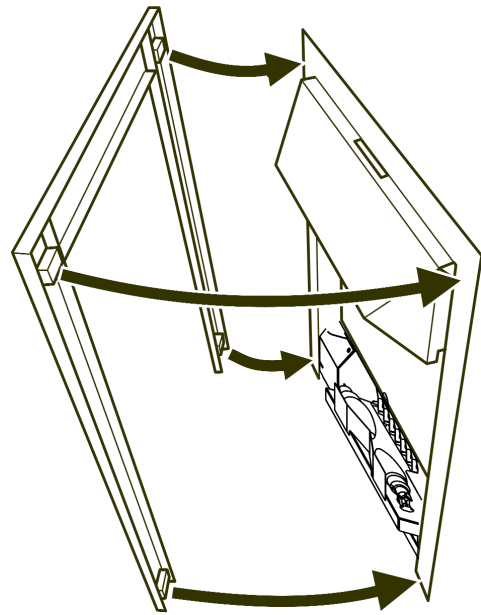

Figure 18. (Anthem, Minima and Style fascia only).
5. Lift the trims at the top outer edges. This will keep the trims together. Locate the trims to the heater as in figure 18.